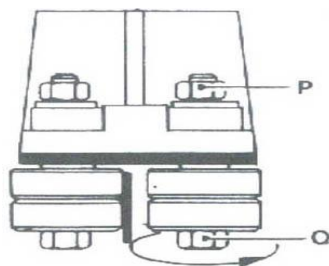

Fig.: 5
- Using a 10mm-spanner, slacken the hexagonal nuts P on the two blade guide on the outside of the blade (fig.5).